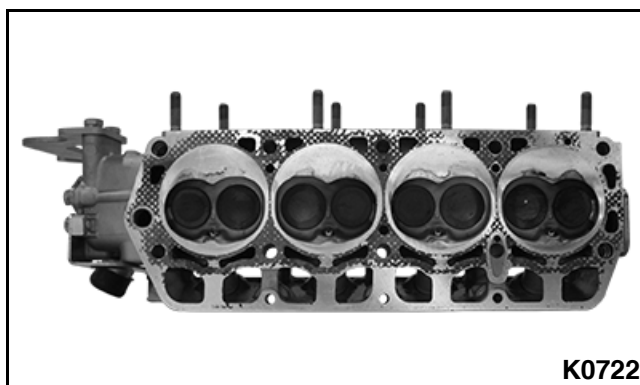

Figure 3-149
1. Before removing valve guides, clean any carbon deposits from inside the intake and exhaust ports of the cylinder head. **See Figure 3-149.**